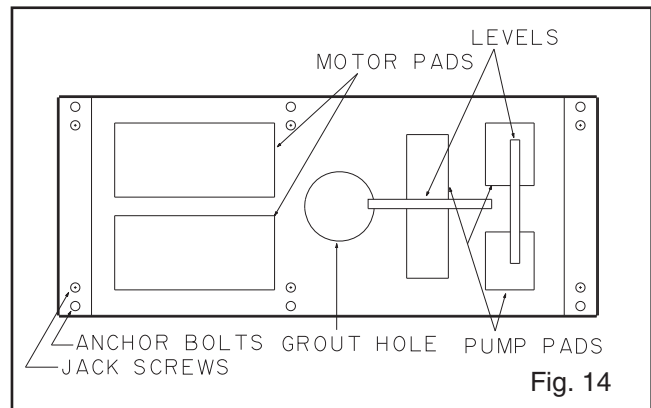

Fig. 14
7. Place the two levels on the pump pads, one lengthwise on a single pump pad, and another across the middle of both pump pads (Fig. 14).